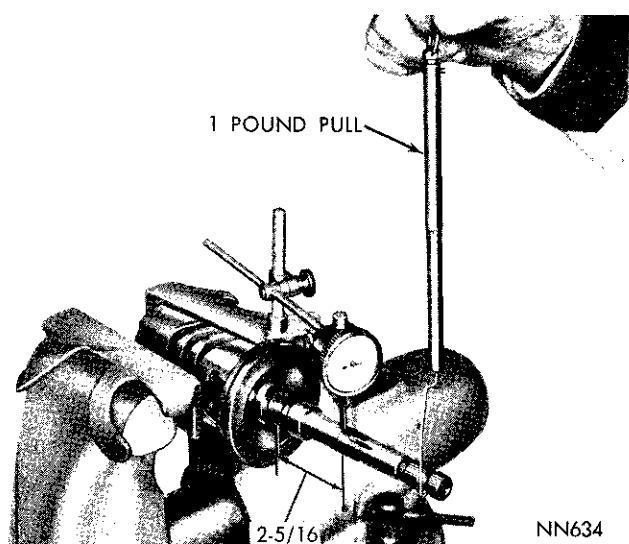

Fig. 18—Checking Worm Shaft Side Play
(26) Test for excessive side play with the piston held firmly in a vise with the rack teeth up, and the worm in its approximate center of travel. The vertical side play measured at a point 2-5/16 inches from the piston flange should not exceed .008 inch when the end of the worm is lifted with a force of 1 pound (Fig. 18).
(27) Inspect condition of rubber sealing ring located under cast iron ring and replace if necessary. Install cast iron piston ring as follows: